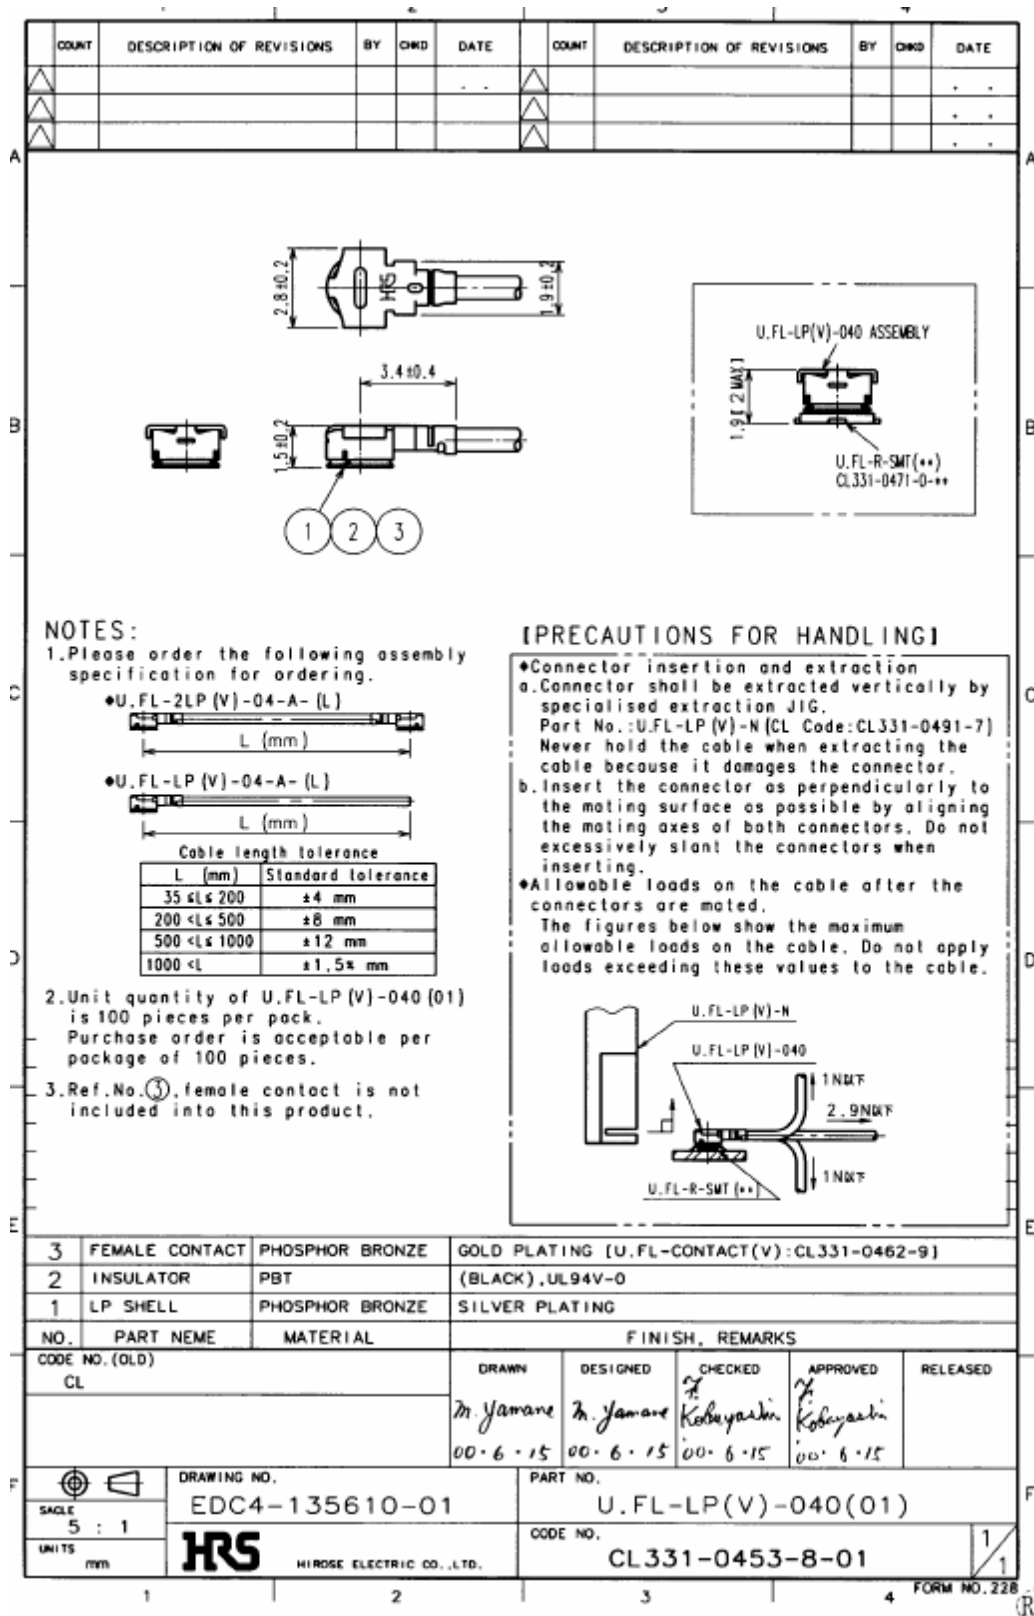

Figure 33: Specifications of U.FL-LP-(V)-040(01) plug
In addition to the connectors illustrated above, the U.FL-LP-(V)-040(01) version is offered as an extremely space saving solution. This plug is intended for use with extra fine cable (up to $\varnothing 0.81$ mm) and minimizes the mating height to 2 mm. See Figure 33 which shows the Hirose datasheet.